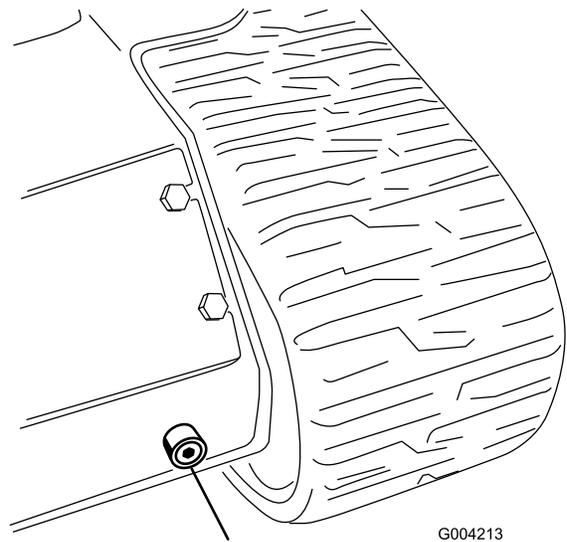

**Figure 59**
5. Remove the hydraulic-tank cap and dipstick (Figure 59).